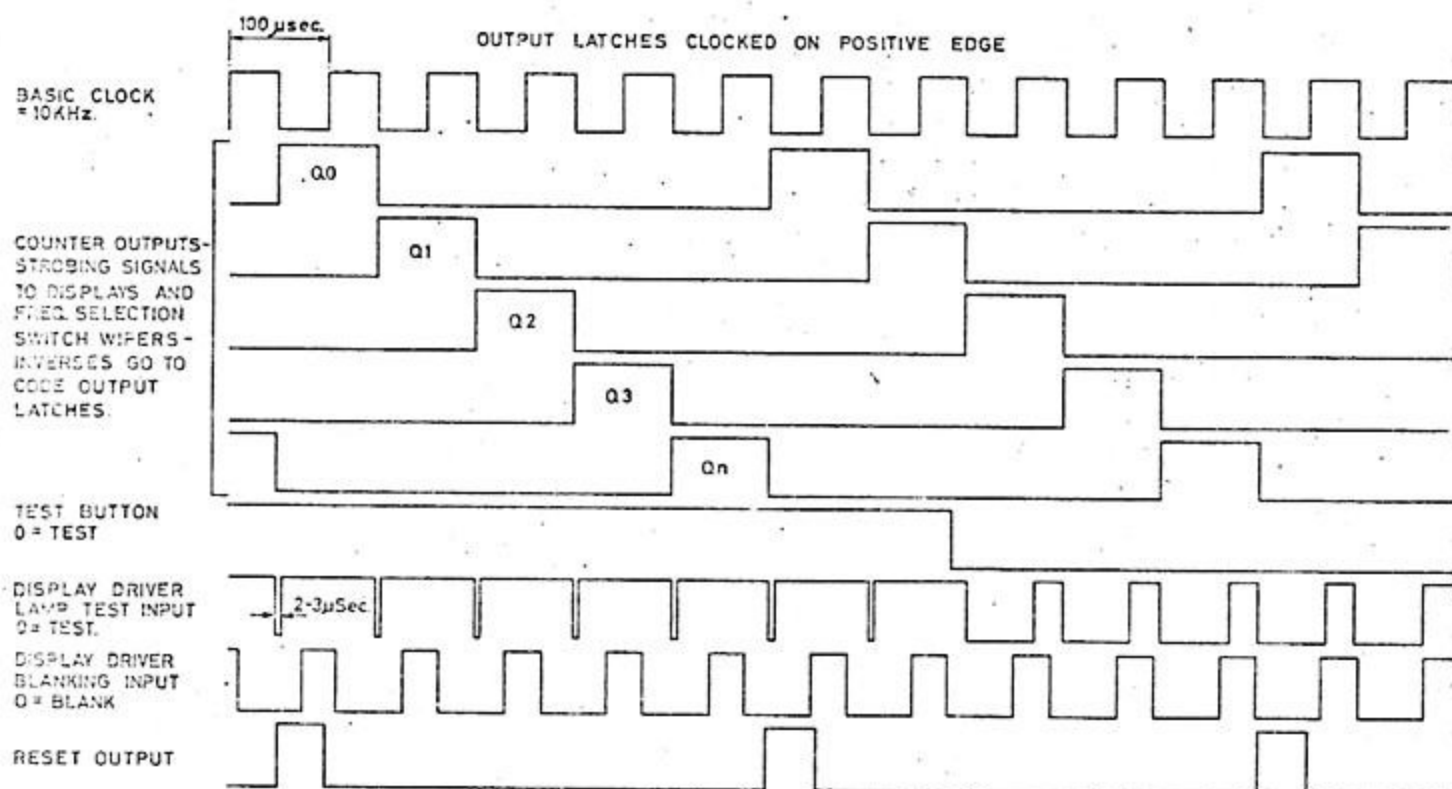

Fig.3 Basic timing diagram
5. When a 1 output from the oscillator is received at both clock (C) and clock enable (CE) gates of IC2 it produces a 1 output at Qn. When clock enable changes from 1 to 0, the 1 output advances from Qn to Qn+1. Subsequent changes of input to clock enable produce a 1 from Q0 to Q5 in sequence (Fig.3).